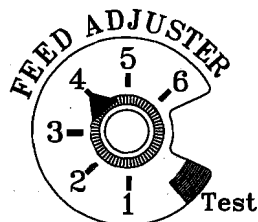

Fig. 22
4. Adjust Feed Rate. If this is your first fire or you are trying different pellets, set the feed adjuster to #4, Fig. 22. This is a conservative number and will probably need to be increased. After you know a feed rate setting that works well, use that setting. Remember, if your feed rate is too high you may waste fuel.